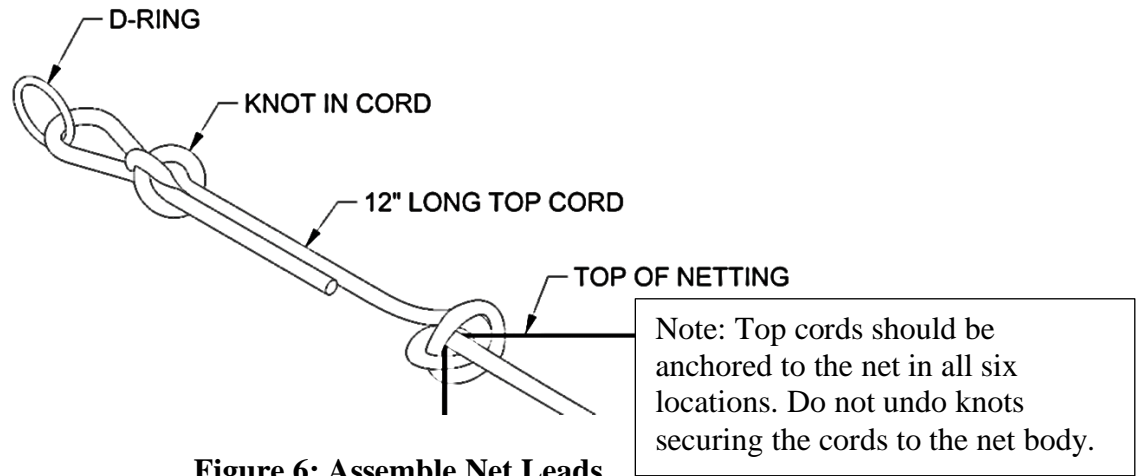

Figure 6: Assemble Net Leads
5) Make up the six leads on the end of the net as shown in Figure 6.